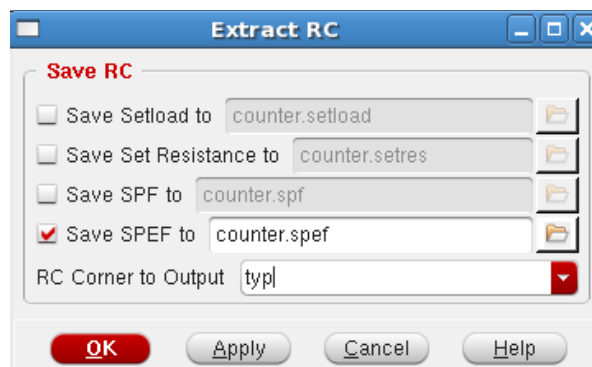

Figure 12 RC Extraction
13. **Timing**→**Extract RC** (as shown in Figure 12) to extract R and C of all the wires.